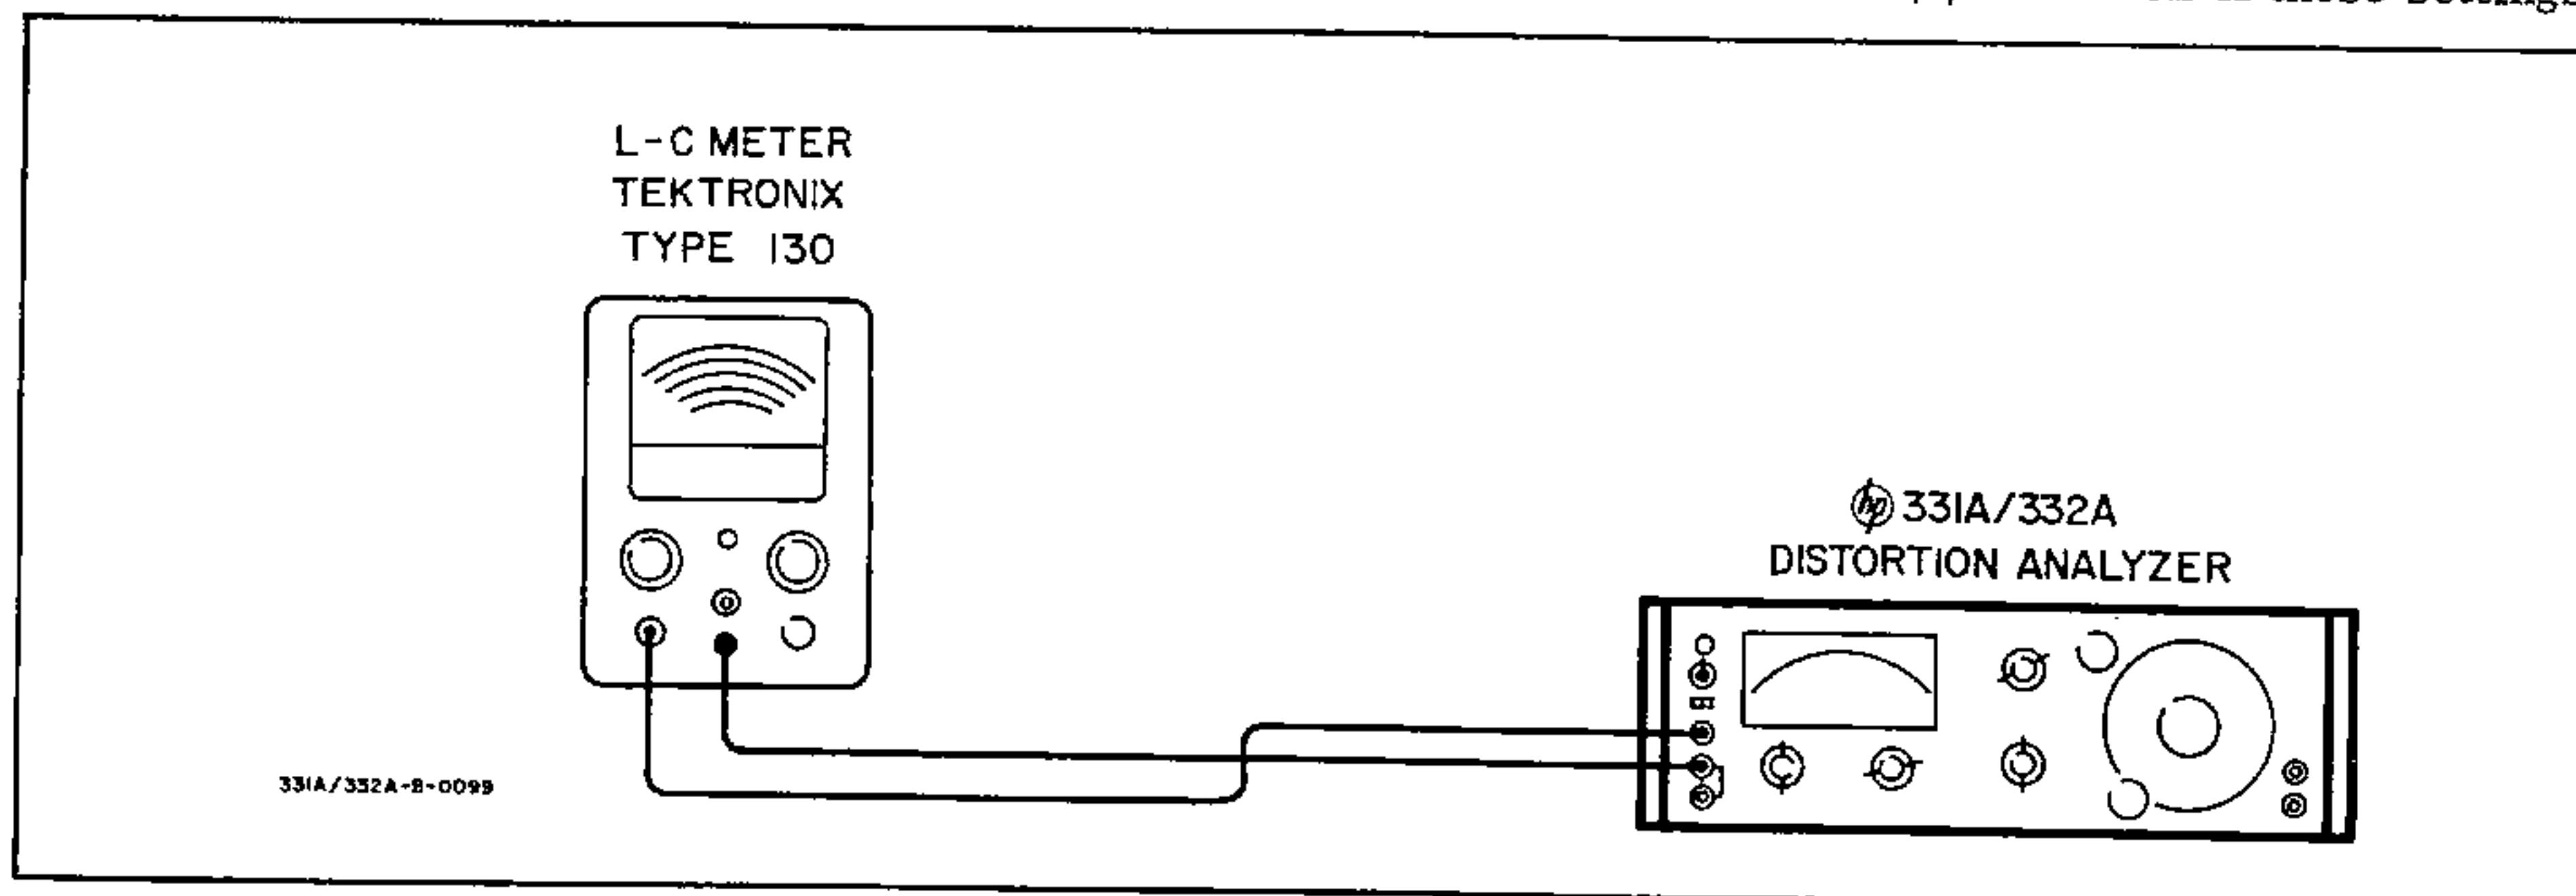

Figure 5-4. Test Setup for Input Shunt Capacitance Check
- d. Connect 331A/332A as shown in Figure 5-4. Test leads should not be over six inches long. If longer, the leads will add capacitance, and the test will be incorrect.